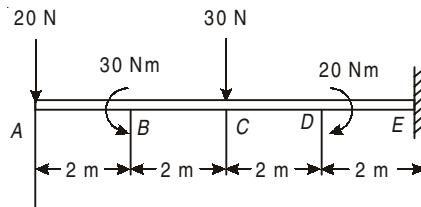

Fig. 5.43
- 5.22.** Draw SFD and BMD of the beam shown in Fig. 5.43.